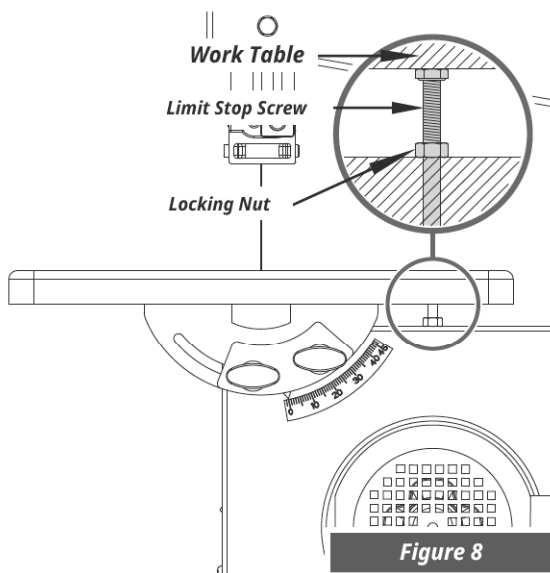

Figure 8
3. Using a try square, set the table at right angles to the blade and tighten the locking screws again. (See Figure 8)